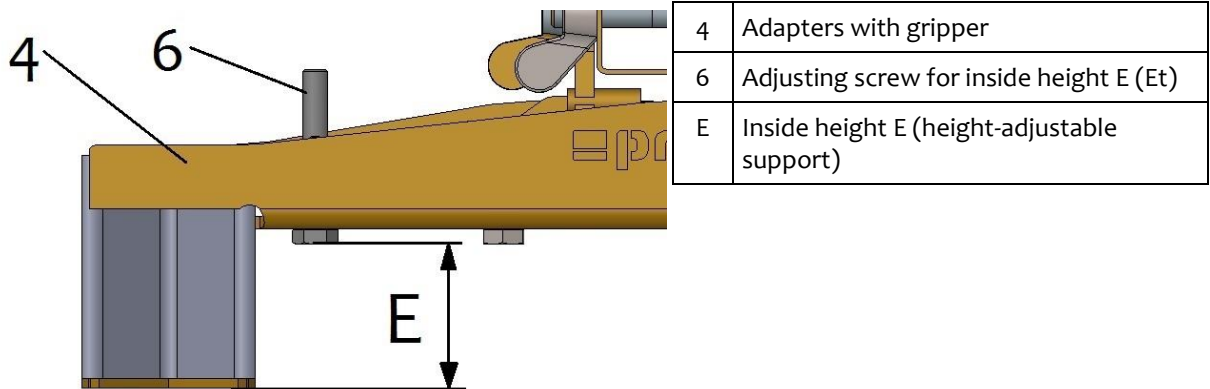

Fig. 3
In addition, the "inside height E (Et)" of the grippers on the adapter (4) can be changed, which must be adjusted depending on the gripping goods to be picked up (Turf Stones) (Fig. 3).